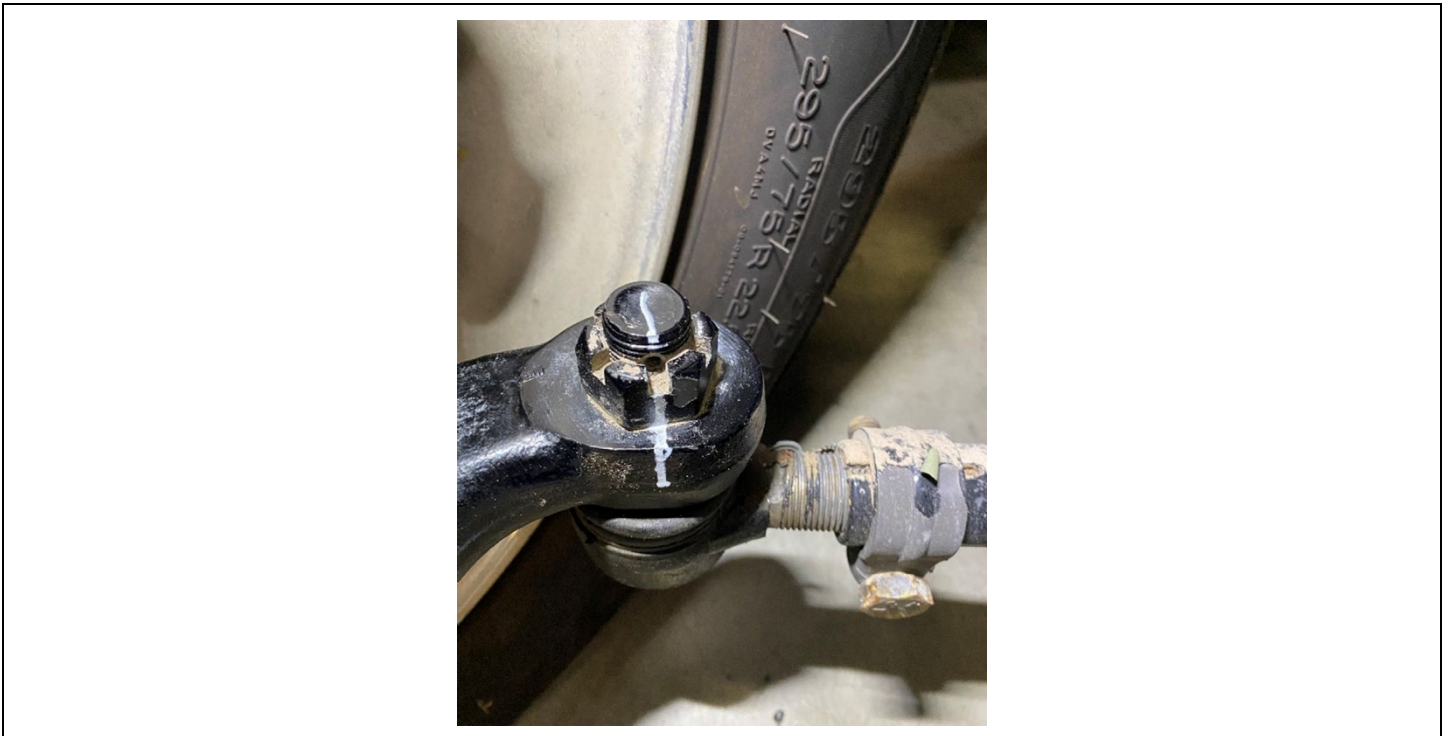

Fig. 4, Tie Rod Bolt, Castle Nut, and Tie Rod Arm Marked
- Use a paint pen to mark the tie rod bolt, tie rod castle nut, and tie rod arm, as shown in Fig. 4.